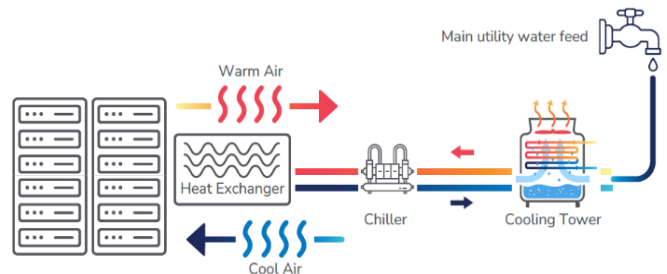

Fig 3: Cooling Towers – note reduced chiller size
2. **Evaporative cooling using cooling towers:** Cooling towers are specially constructed to maximise surface area to facilitate evaporation. They are very energy efficient but relatively water intensive. They minimise the use of chillers and refrigerants. Fans blow air across a large surface area of water which then evaporates. The evaporating water removes heat from the circulating water. In fact there are different types of cooling tower, closed loop and open loop (now you know why everyone gets so confused all the time!). Where the evaporating water is the same as the circulating water it is called an open loop cooling tower because that circulating water is evaporated and therefore lost to the system. Where the circulating water and evaporating water are separate then it is a closed loop cooling tower because the circulating water is contained. Some cooling towers are designed in such a way that they can alternate between dry and evaporative modes and are often referred to as ‘hybrid’. For the purposes of comparison though, all you need to know is that cooling towers use evaporation for heat rejection, and therefore consume lots of water (Fig 3).